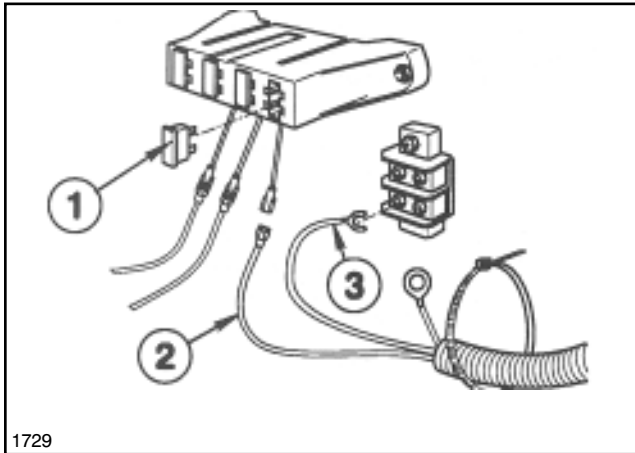

FIG. 5
11. Route Harness to Fuse Block under Operator Seat. Connect power and ground wires as shown in FIG. 5.